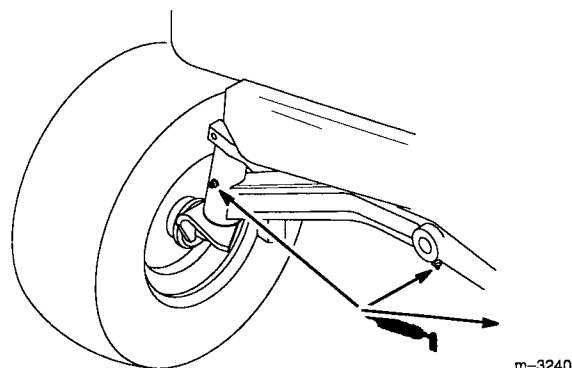

Figure 28
1. Lubricate the left-hand and right-hand spindles until grease begins to ooze out of the bearings (Fig. 28).
2. Lubricate the front axle pivot (Fig. 28).